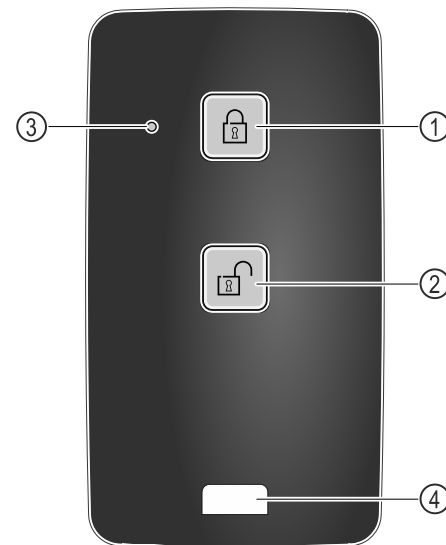

Fig. 245
- (1) Engage lock
- (2) Unlock lock
- (3) Status LED
- (4) Fastening eyelet
- ▶ Press button Fig. 245 (1) on the remote control.
- ▶ Press button Fig. 245 (2) on the remote control.
- ▶ Status LED Fig. 245 (3) provides a visual acknowledgement when you press the button.
- ▶ Eyelet Fig. 245 (4) for attaching remote control, for example, to a key ring.